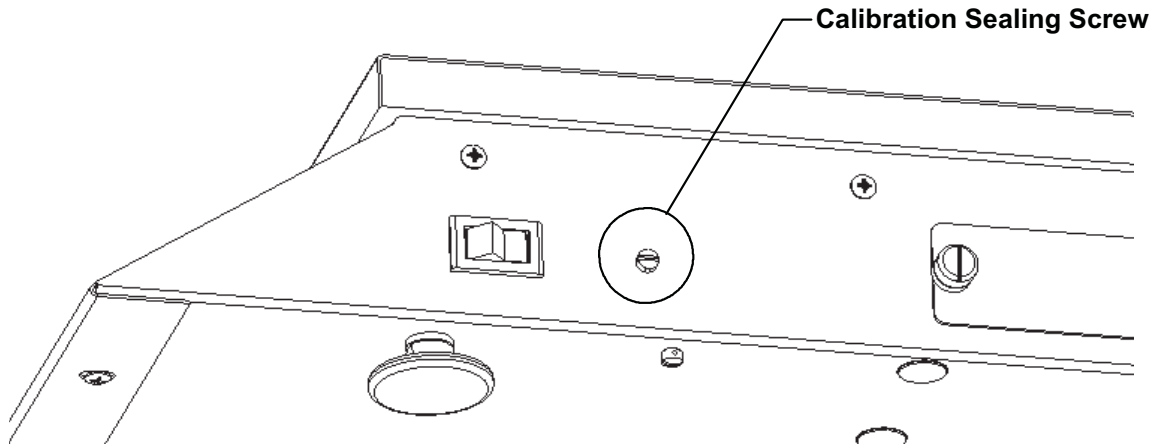

Figure No. 7
1. With the scale power off, remove the calibration sealing screw on the right side panel, see Figure No.7.
2. With the screw removed, place the power switch in the ON position. The scale will perform a brief lamp test. This test consists of illuminating all display segments and annunciator LED's for approximately three (3) seconds to allow the operator to make a visual verification that the display is operational. After completion of the lamp test, the scale will display the model number and software revision level, then the weight display will change to *SCRL*.
2. With the screw removed, place the power switch in the ON position. The scale will perform a brief lamp test. This test consists of illuminating all display segments and annunciator LED's for approximately three (3) seconds to allow the operator to make a visual verification that the display is operational. After completion of the lamp test, the scale will display the model number and software revision level, then the weight display will change to *SCALr*.